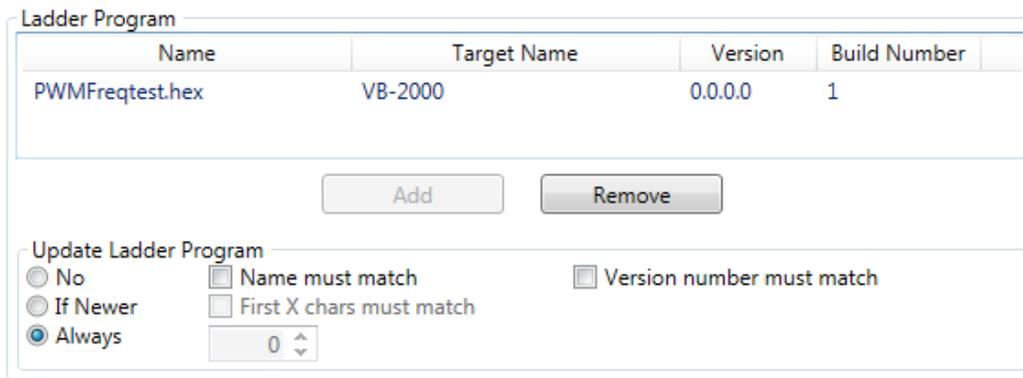

Figure 6
5. Select the Ladder Program Update Options. Refer to Figure 6.